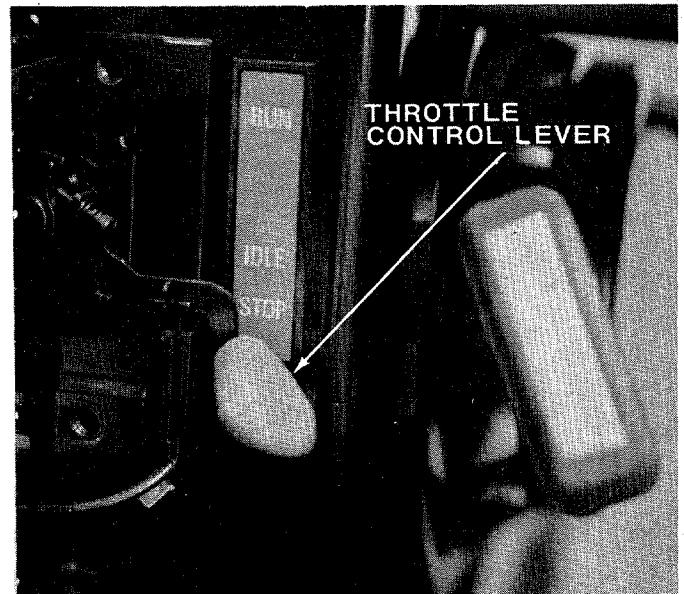

FIGURE 8
1. Place control lever (on engine) in run position. See figure 8.
1. Move control lever to STOP position. See figure 8.